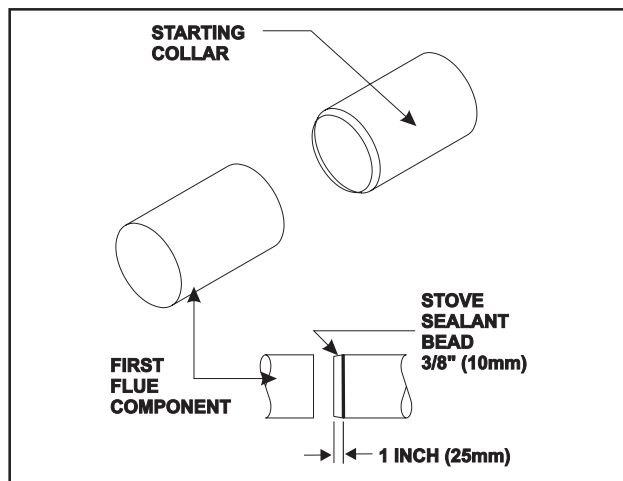

Figure 11 Attaching the First Flue Component to the Starting Collars
**WARNING: A 3/8 INCH (10MM) BEAD OF STOVE CEMENT MUST BE PLACED AROUND THE INNER PIPE HEATER STARTING COLLAR BEFORE ATTACHING THE FIRST FLUE COMPONENT. FAILURE TO SEAL THIS JOINT MAY CAUSE THE HEATER TO OPERATE IMPROPERLY. SEE FIGURE 11.**